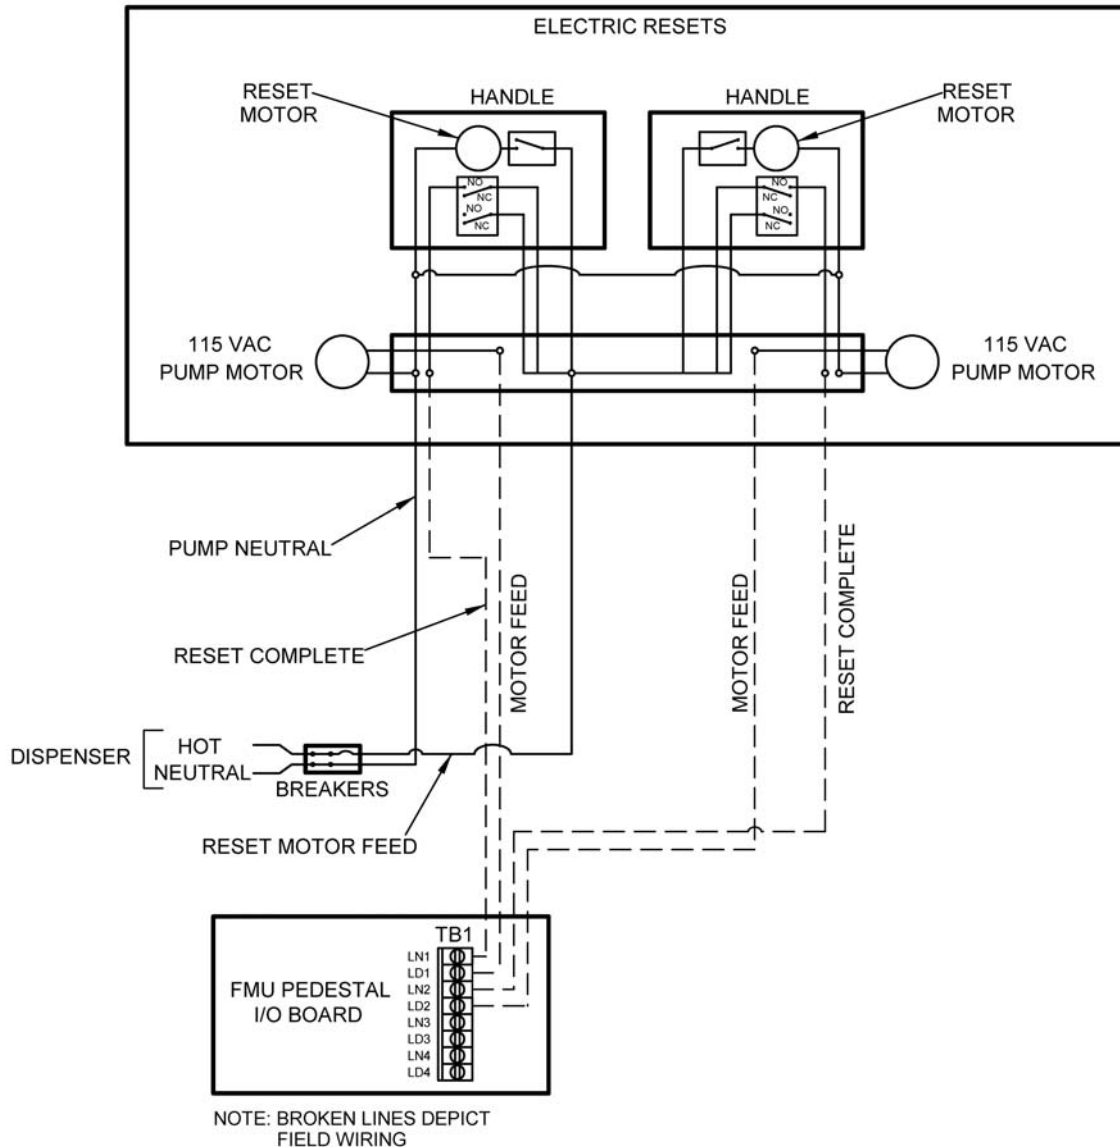

Figure 4-10. Wiring Diagram - Controlling Motors
- b. **Controlling Motors.** See Figure 4-10. When controlling a classic or DoD FMU, and pump handle detection is needed, the control method most likely used will be controlling motors or solenoid valves. If solenoid valves are not present, motors must be controlled. There must be one motor feed per hose. Motor control interrupts power from the dispenser reset mechanism to a suction pump motor or contact starter for a submersible pump motor. Siphoning from aboveground tanks is possible if solenoid valves or anti-siphon valves are not present. Pump handle detection is possible from all variations of FMUs.